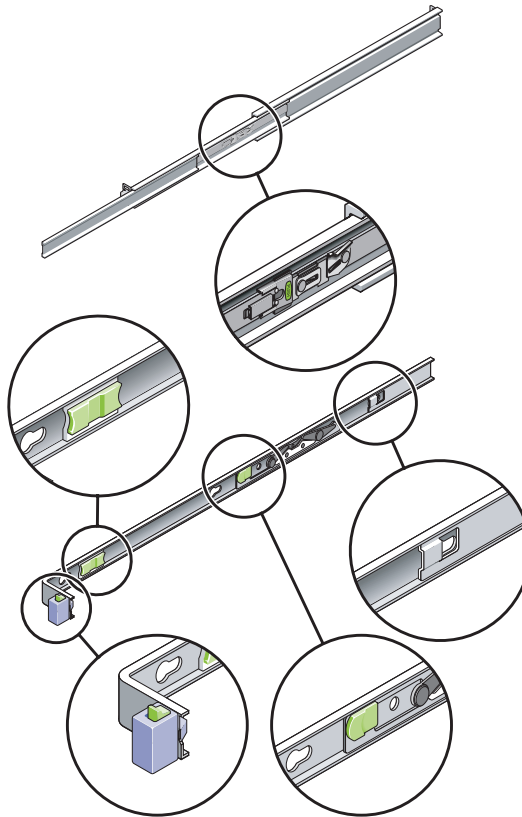

FIGURE 2-4 Locating the Locks on the Slide Rail Assembly
- Note that there are a total of five locks (FIGURE 2-4) in a slide rail assembly. Four are on the mounting bracket. One lock is on the front section of the slide rail.